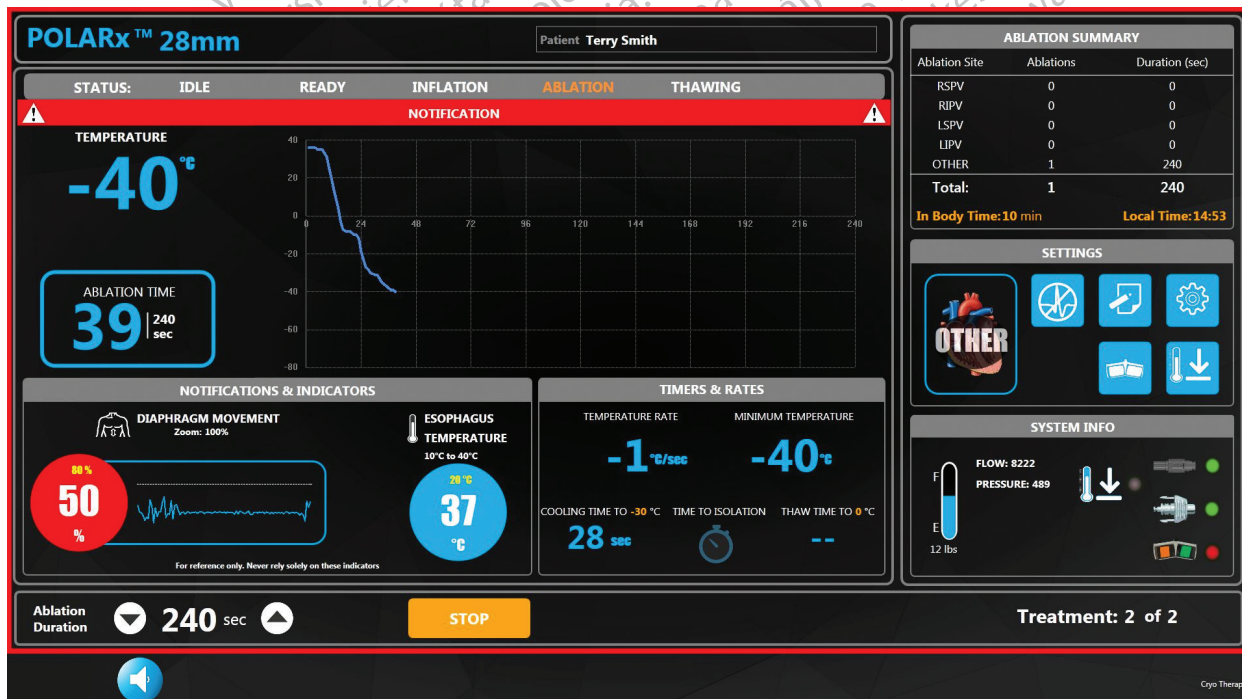

Figure 9. Diaphragm Movement Sensor Alert
1. Select the numeric value next to the **Diaphragm Sensor Limit**. Set the Diaphragm Sensor Limit to the desired percentage using the up/down arrows. When the percentage reaches the set point chosen in this field, the Diaphragm Sensor reading on the Therapy screen will turn red and flash, a red border around the screen will flash and the Temperature graph title bar will flash red with the audible notification when the percentage reaches the set point chosen in this field (Figure 9). The alert may be displayed during the ablation phase.
- The diaphragm movement data will be plotted on the Diaphragm Movement graph and the current amplitude will be displayed as percent. The percentage is based on the measured response at the start of the ablation phase and will decrease as the patient's response to the pacing signal decreases. If the percentage reaches the setpoint, the current diaphragm movement percentage will be displayed in a red circle and flash, a red border around the screen will flash and the Temperature graph title bar will flash red with the audible notification (Figure 9). The alert is present during the ablation phase. If the DMS reading is less than the DMS sensitivity setting, the DMS graph will indicate "No Pacing Detected". The DMS graph has a white line that adjusts to the average DMS value seen.